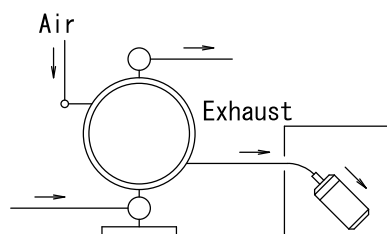

Fig.3.2
- *Exhaust should be directed outside, not into the fluid in which the pump is submerged. For information on how to arrange the exhaust, see NOTE: Arranging outside exhaust and Fig.3.2 below.